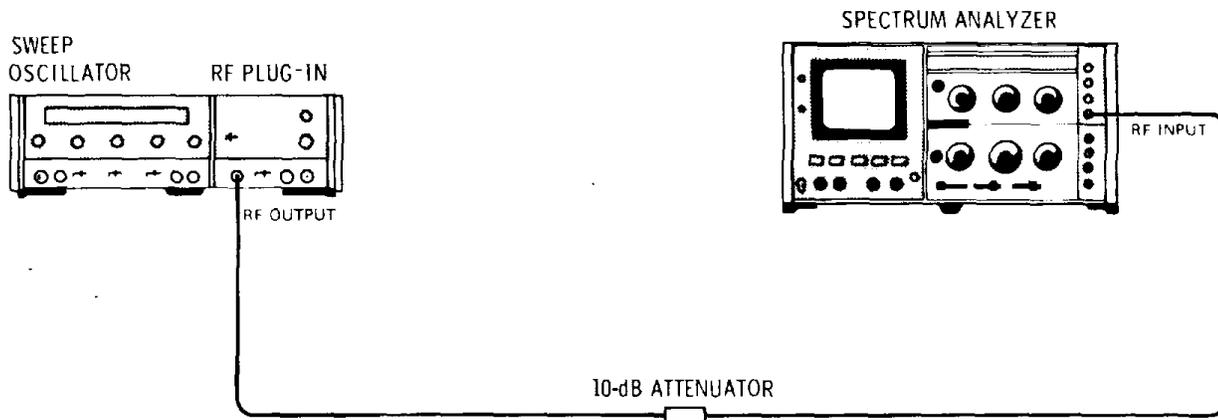

Figure 4-3. Residual FM Test Setup
- a. Connect equipment as shown in Figure 4-3. Set controls as follows: